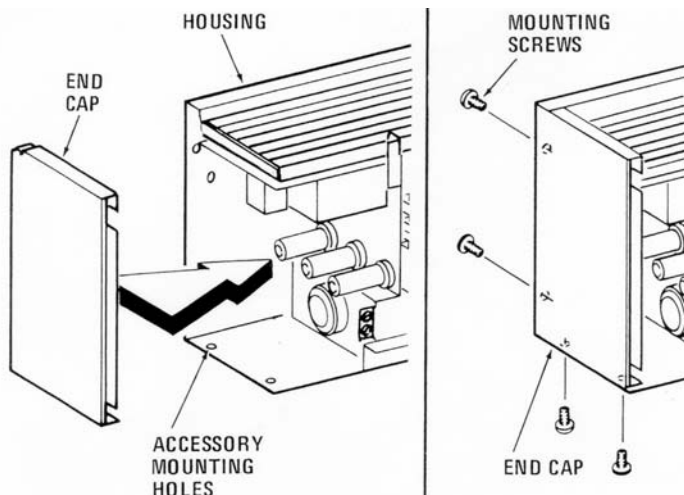

Figure 4a. (Type CSH and DSH)
3. Install end caps (must be purchased separately) on both ends of the heater housing. Refer to Figure 4a (for Type CSH and DSH) or Figure 4b (for Type ADB and ASH) for details of end cap installation.
6. Install end caps (6) on the outer end of the last heater(7) and (9) using four #6 screws supplied with end caps. (Refer to Figure 4a for details of end cap installation.)